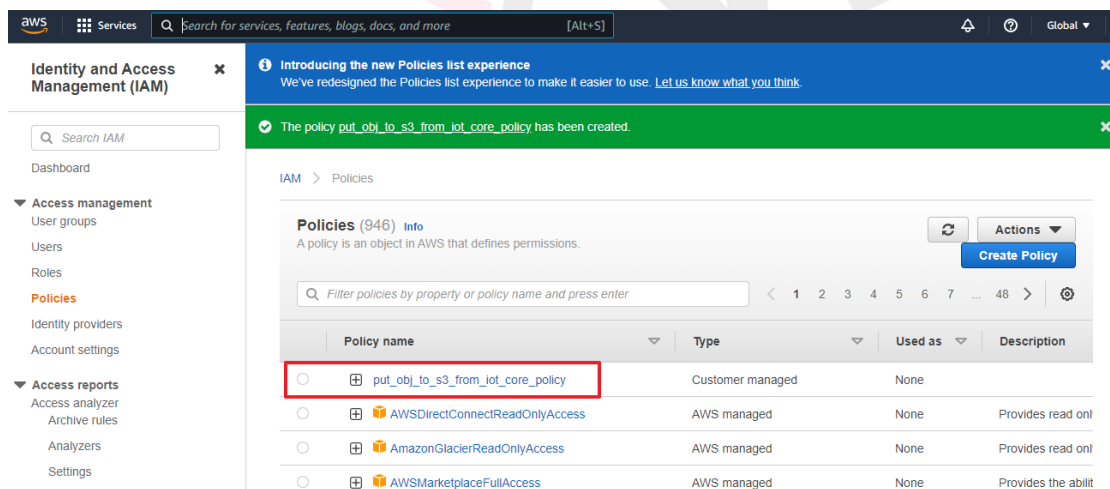

Figure 4-150 Complete the establishment of Policy
13. Following the process, after entering the Policy name in the final step, click on "Create Policy" to complete the creation. You will be able to view the newly created Policy in the list of Policies (as shown in Figure 4-150).